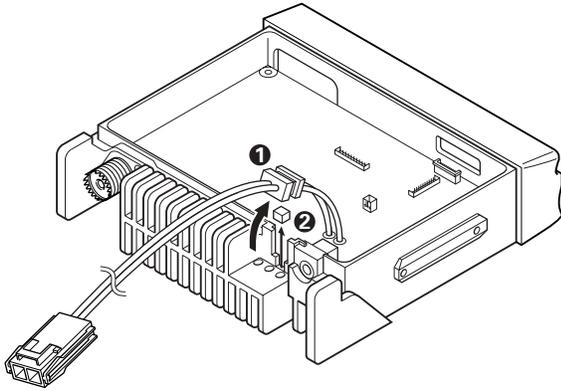

Fig. 3
1. Lift the DC cord bushing (1) from the chassis. Peel the pad as shown in Figure 3 (2).